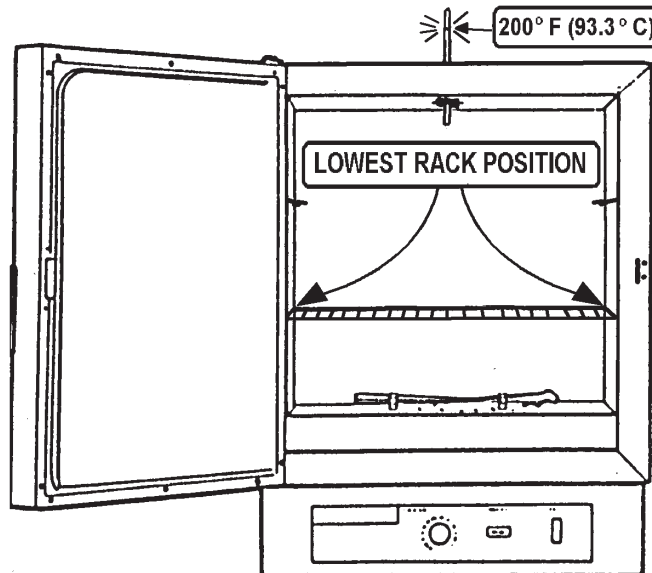

Figure 2-22. Correct Oven Temperature and Rack Position
1. Set oven rack to lowest position; heat oven to 200°F (93.3°C). Refer to Figure 2-22.